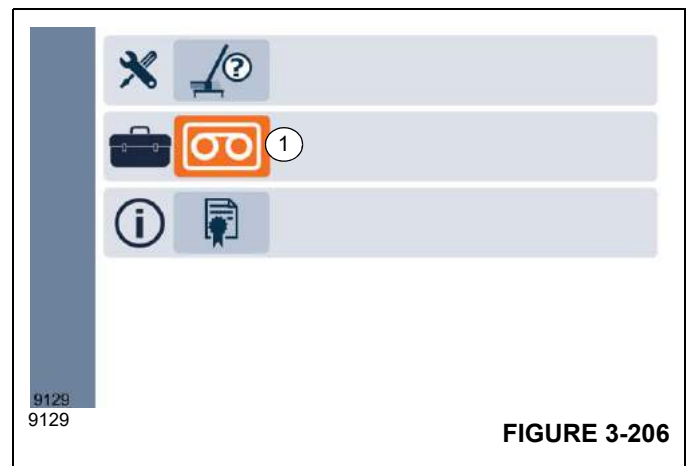

FIGURE 3-206
1. Select the data logger icon (1), (Figure 3-206) on the RDM.